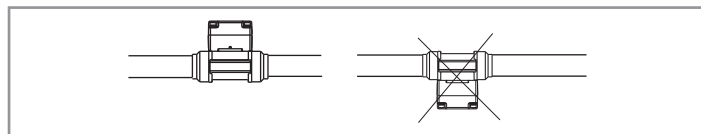

Fig. 3: Paddle-wheel downwards on an horizontal pipe
- On an horizontal pipe, mount the device in such a way that the paddle-wheel is downwards (Fig. 3).